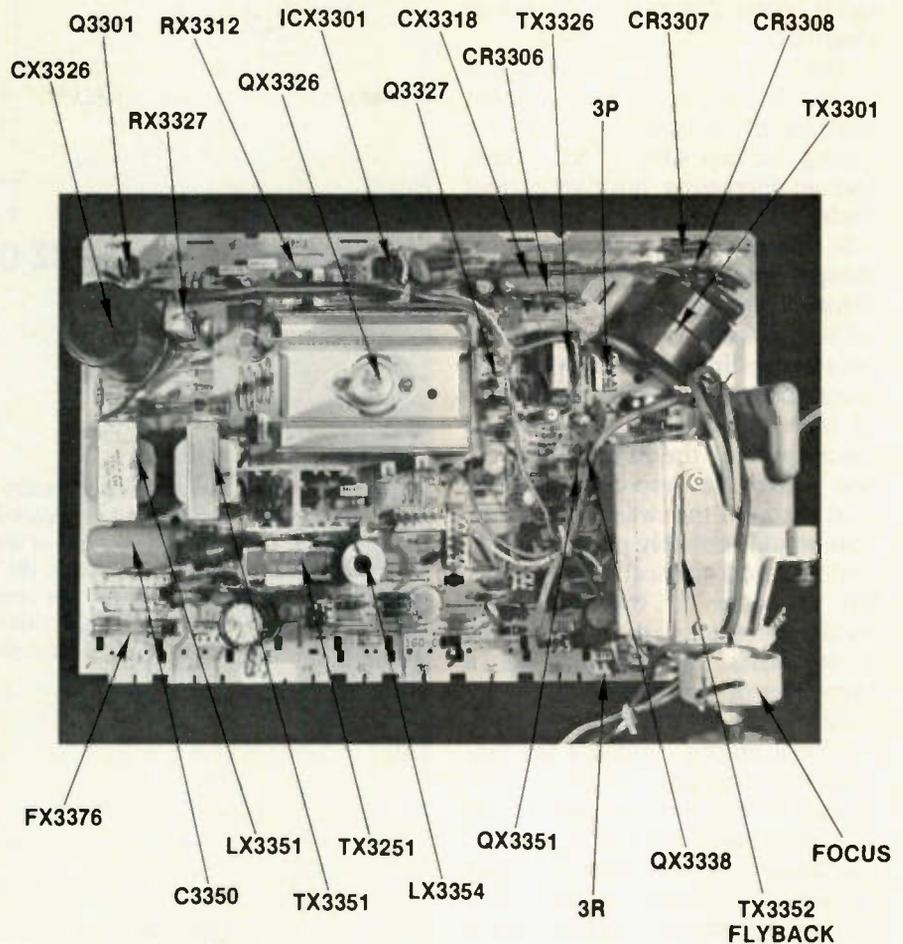

Figure 3 Arrows point to many important components on the Zenith M10 module.
Figure 3 The Heathkit Satellite Receiver is an attractive unit that can be placed on top of most TV receivers. Output of the Satellite Receiver goes to the antenna terminals of a standard TV receiver. The unit is larger than some videocassette tape recorders, and features many new technical conveniences such as direct-access electronic tuning with remote control.
- The satellite-TV receiver kit (Figure 3) has a Scientific-Atlanta UHF receiver section, Heath electronics, and a Zenith Space-Command wireless remote control to provide 24-channel synthesized electronic tuning. A memory allows instant switching between any two preselected channels. A keypad on the receiver panel allows direct access, as does the remote unit.
Arrows and call-outs in Figure 3 show locations of important components on the M10 module.